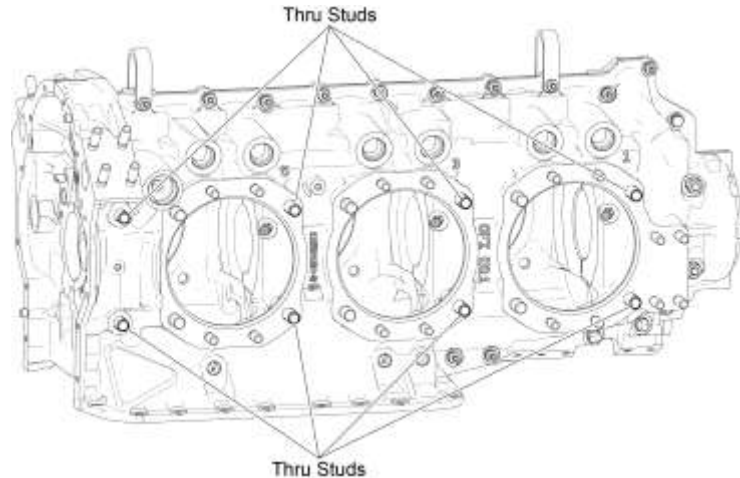

Figure 4
- G. Use a slide hammer, a crankcase thru-stud puller ST-271 or crankcase thru-stud driver ST-317 or a plastic hammer to remove the eight thru-studs from the crankcase (Figure 4).